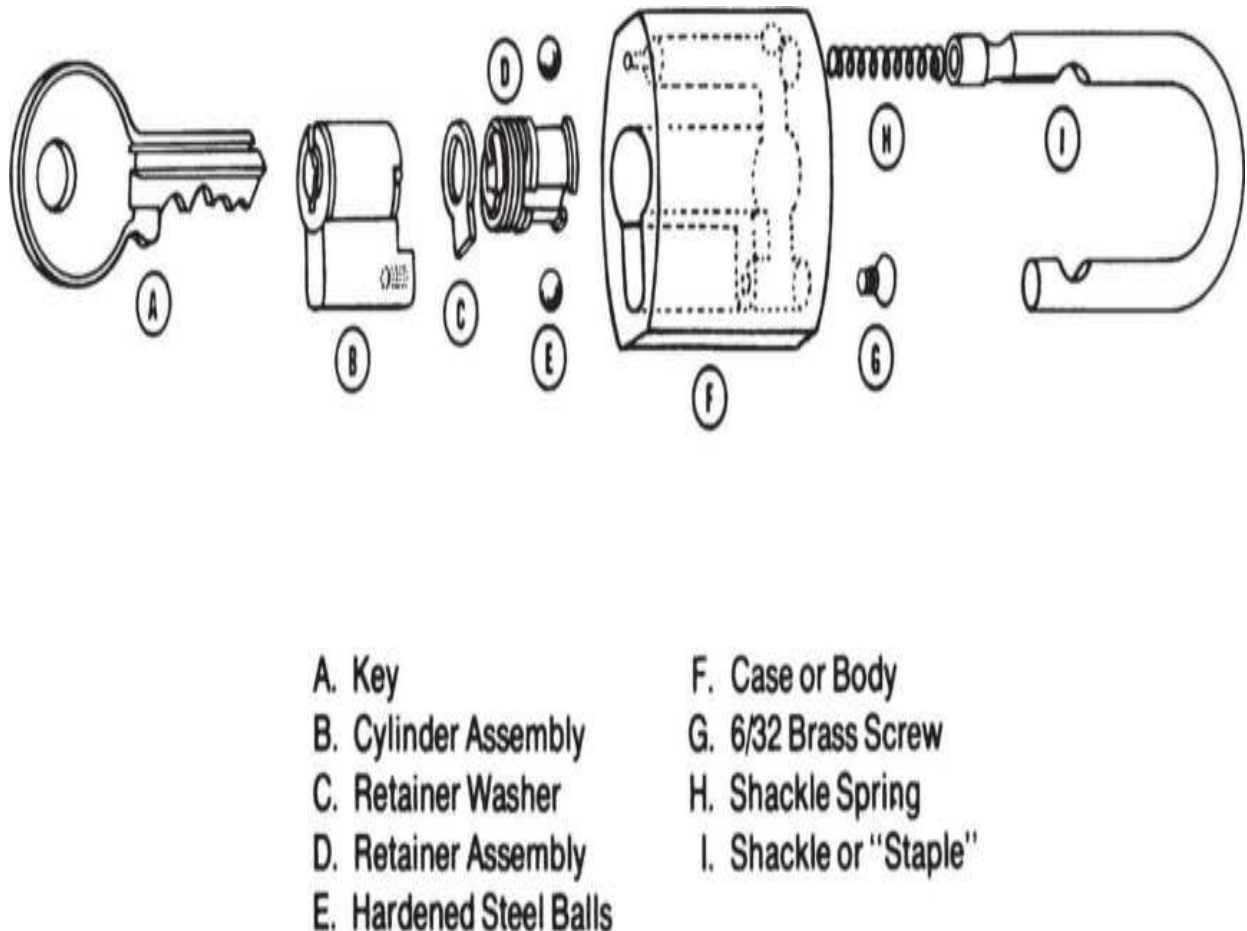

**Figure 12.6** An American pin tumbler padlock.
**Pin tumbler padlocks.** The American five-pin tumbler padlock was designed so the cylinders can be changed quickly (Fig. 12.6 ). Late production 100- and 200-series use the same cylinder assembly and keyway, reducing the inventory load.
1. Assemble the retainer (D in Fig. 12.6 ) and the retainer washer (C) with the free end of the spring tightly against the left side projection on the washer.
2. Place the shackle spring (H) in the hole on the end of the shackle (I).
4. Drop the balls (E) into the case bottom and move them into the pockets with a small screwdriver. There must be room for the retainer assembly.
6. Insert the retainer assembly (C and D). The retainer washer (C) fits into the elongated hole in the case.
9. Install the cylinder assembly. Holding it flush with the case bottom, insert the 6 × 32 brass screw (G) into the shackle hole and tighten it snugly.